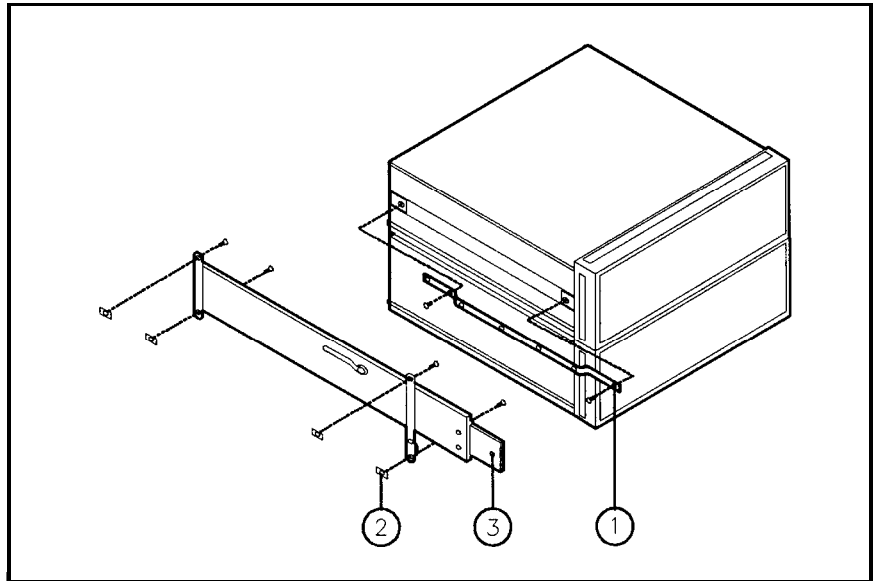

Figure 2-13. Attaching the Inner-Member Brackets
17. Attach one slide inner-member bracket to each side of the instrument using two M5x0.8x10 pan-head screws per side. See ① of Figure 2-13.
- Insert two Unistrut nuts, item ② of Figure 2-13, into each of the two vertical columns on the left side of the system cabinet. Insert two Unistrut nuts into each of the two vertical columns on the right side of the system cabinet.
- Bolt an outer slide mount to the Unistrut nuts in each side of the systems cabinet, using four M5x0.8x12 pan-head screws per side. See ③ of Figure 2-13.